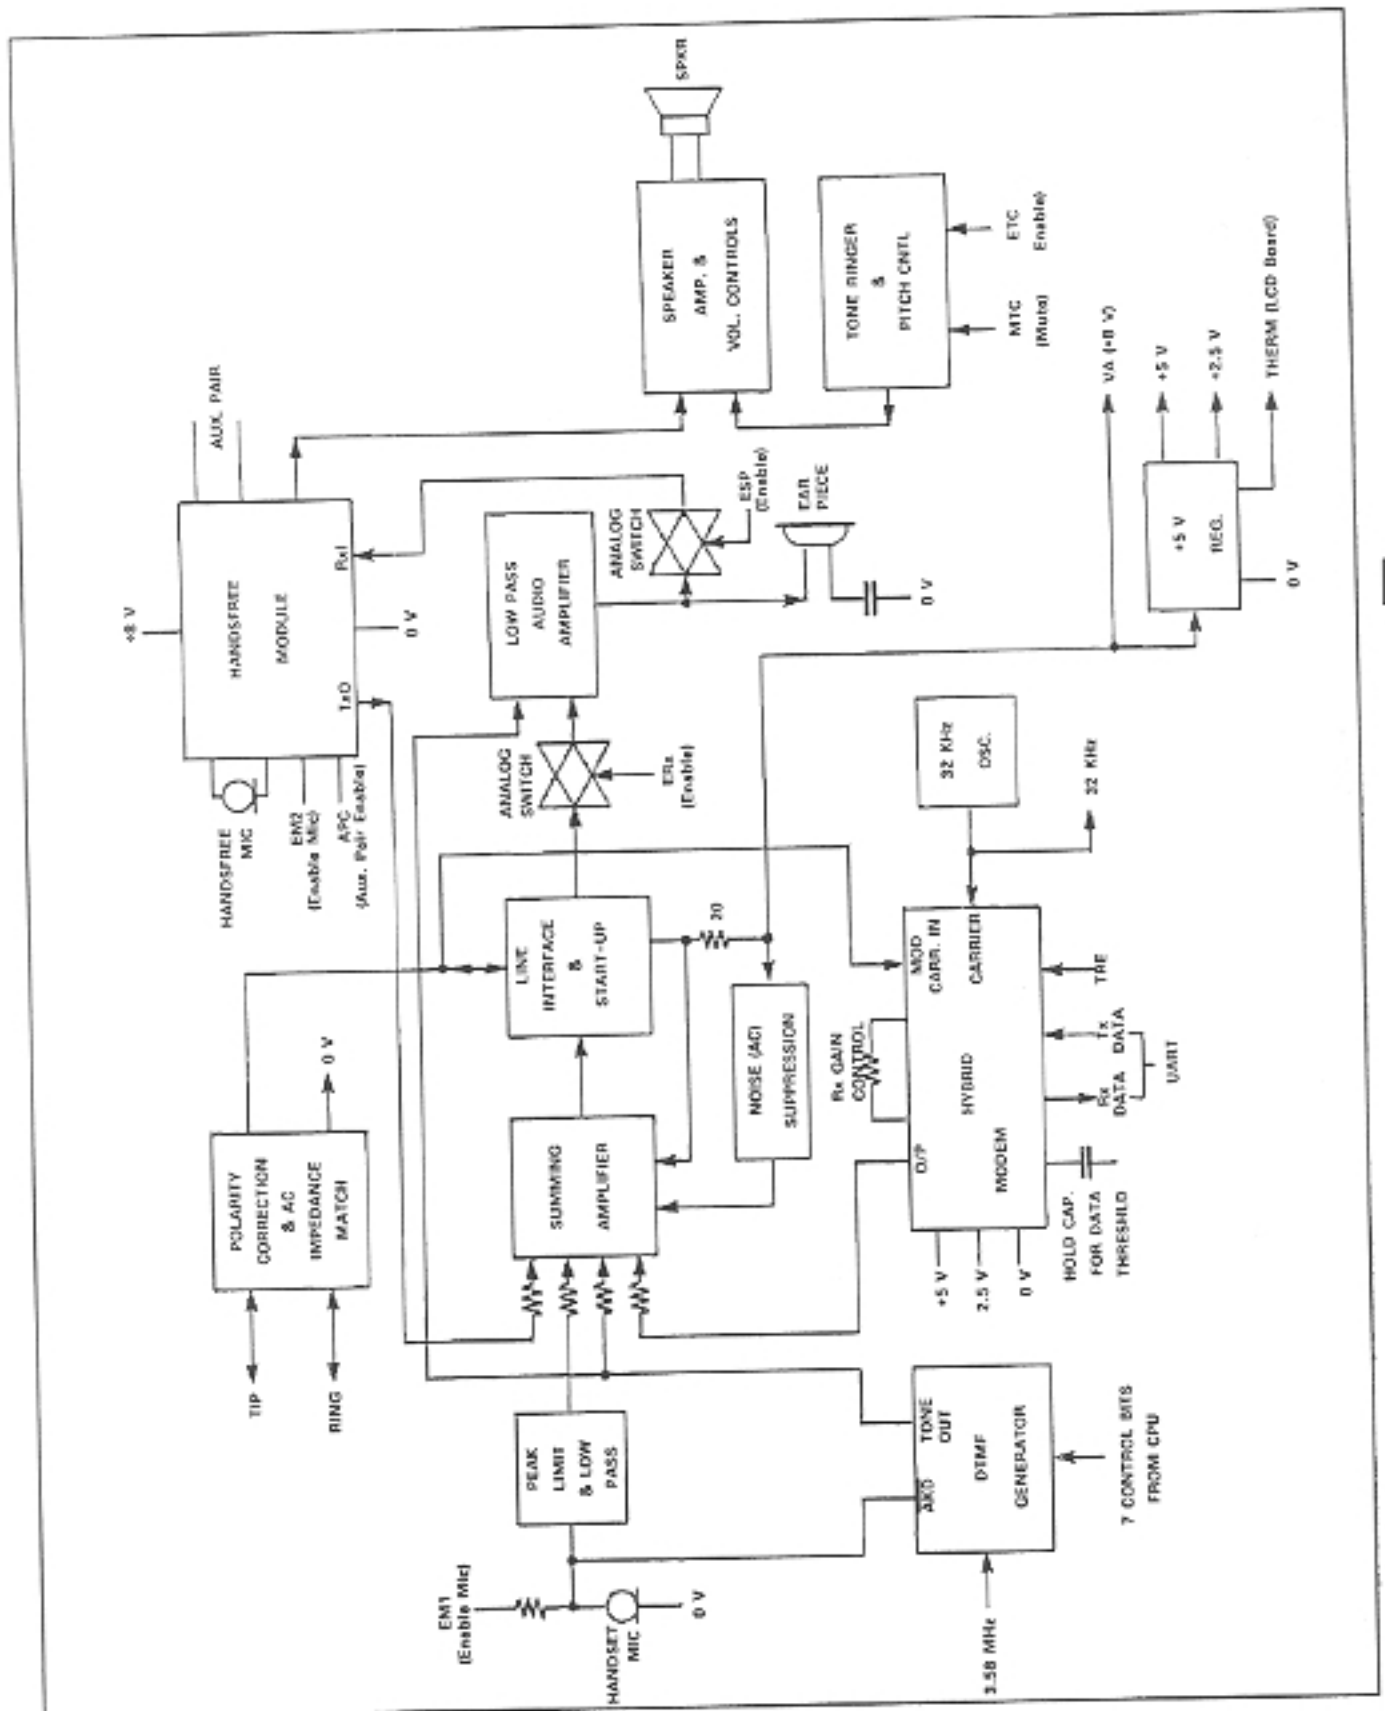
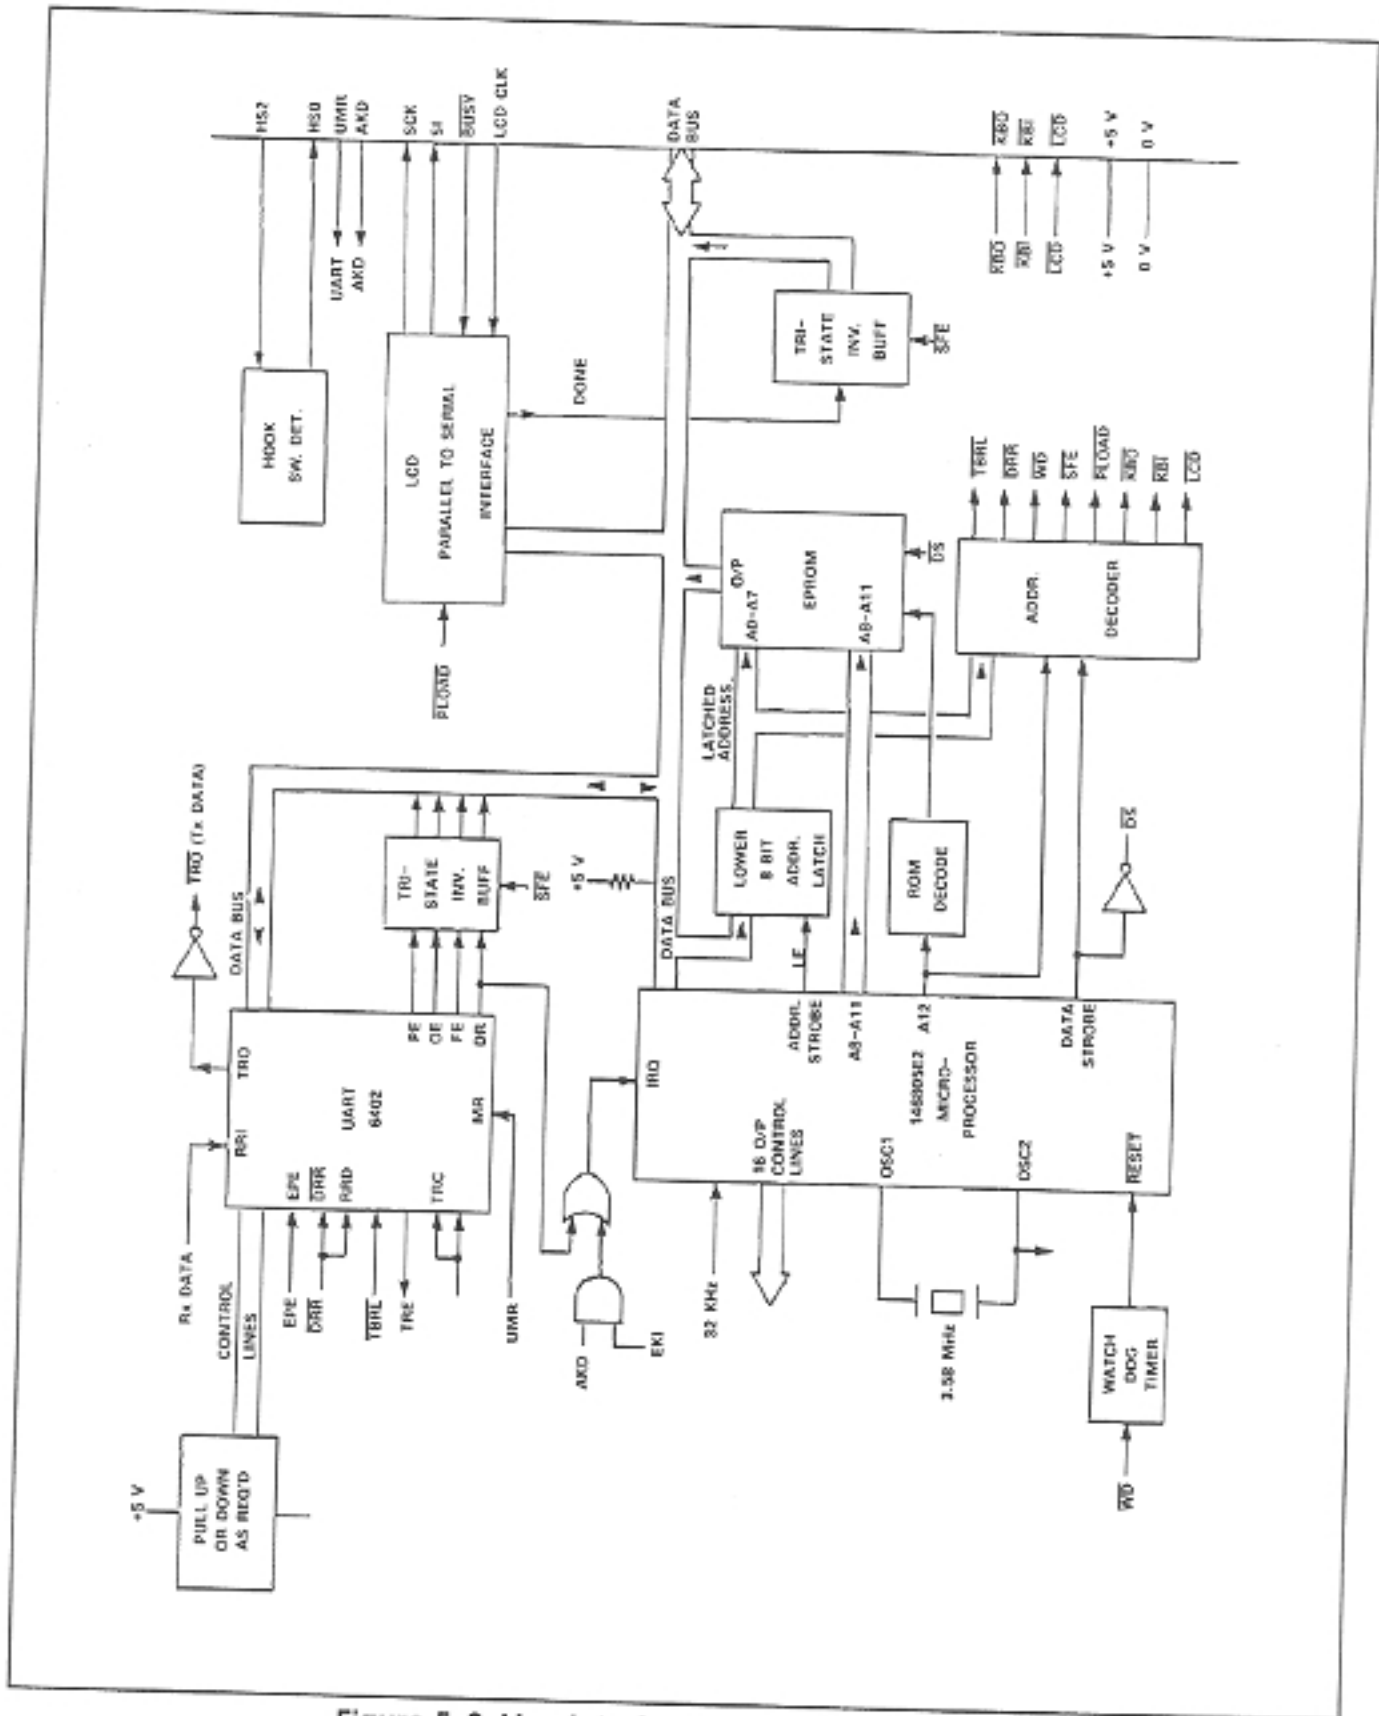
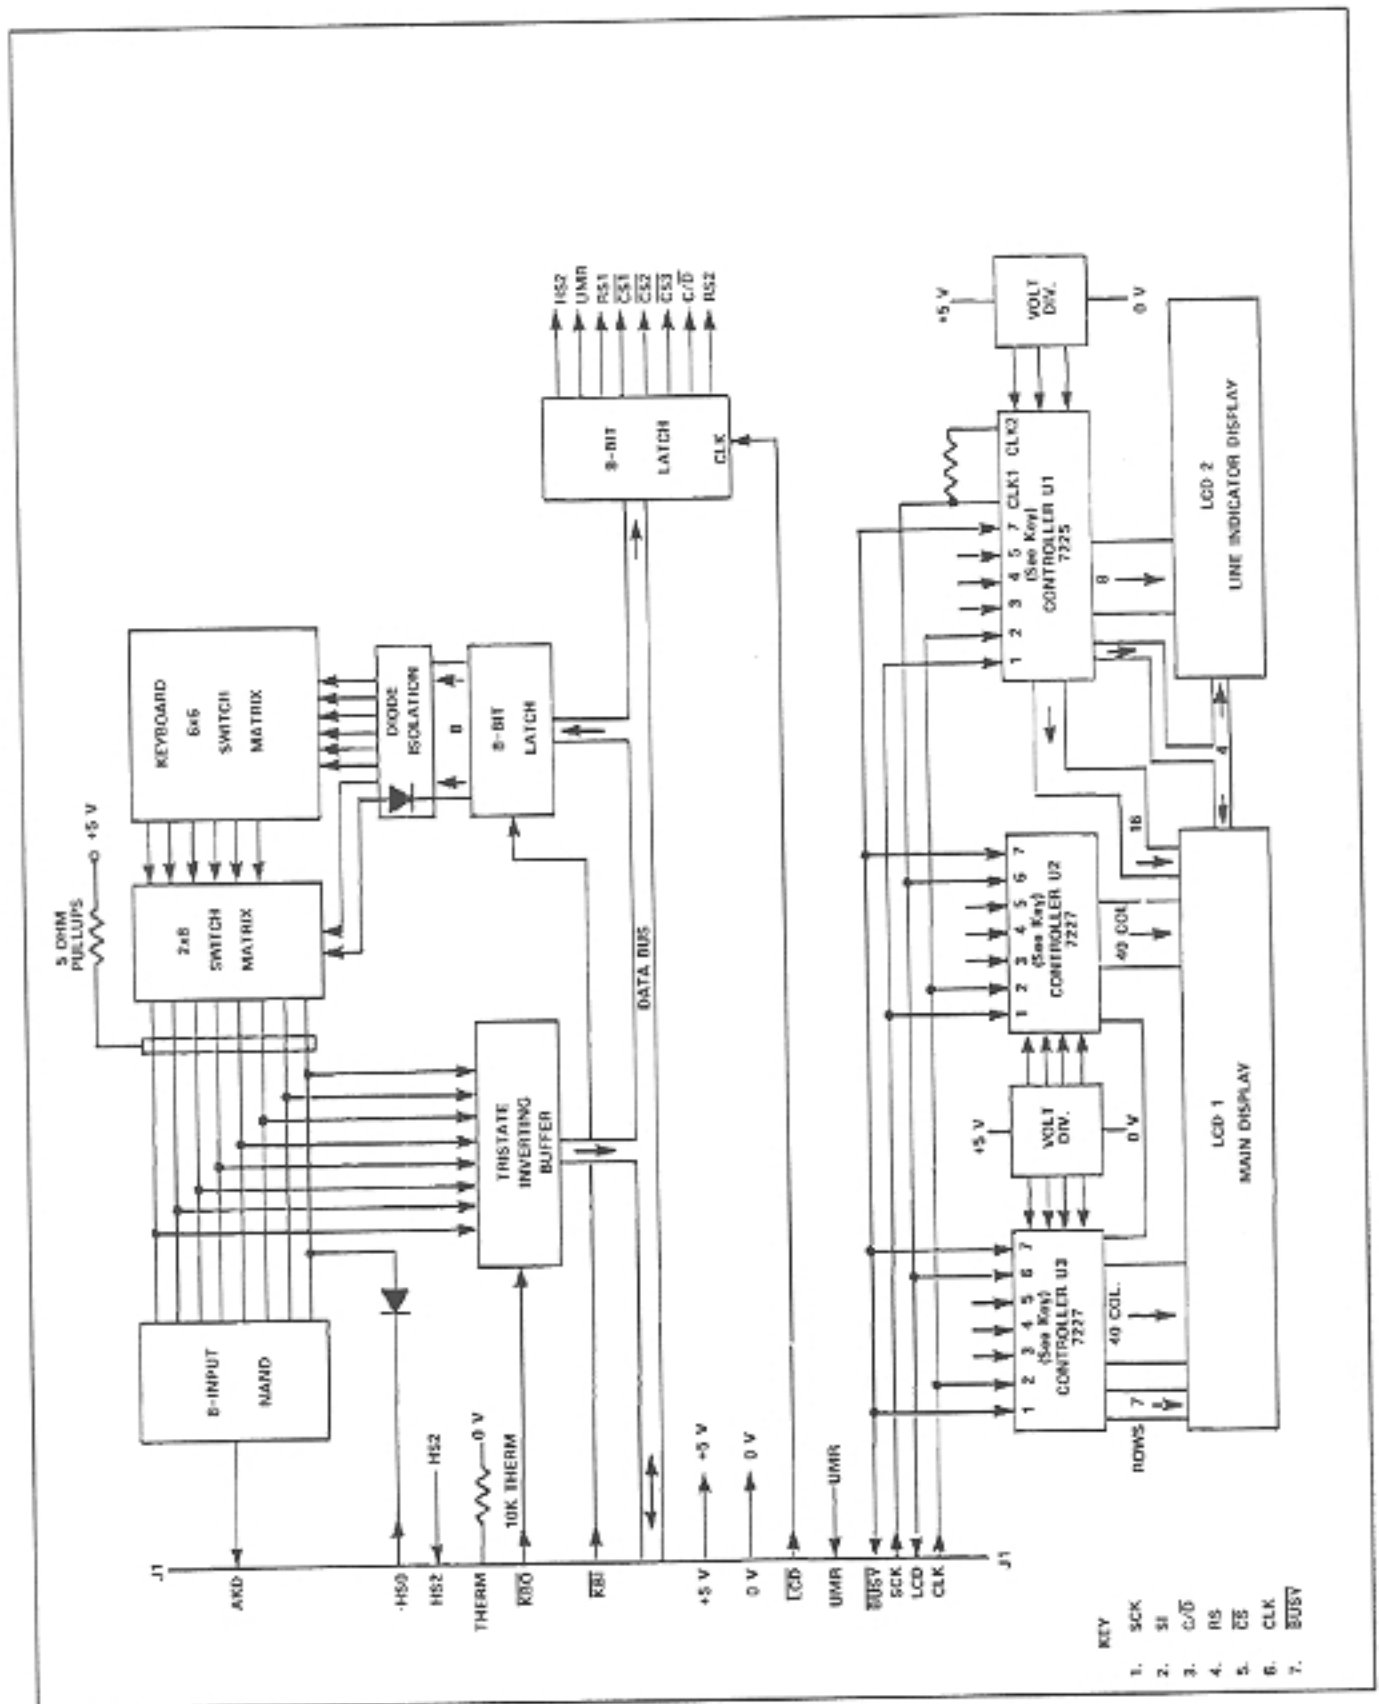

Figure 5-1. Line Interface Board, Analog Section
Figure 5-2. Line Interface Board, Digital Section
Figure 5-3. LCD Board and Keyboard Block Diagram
5.01 The following descriptions relate to the block diagrams, Figure 5-1, Line Interface Board, Analog section; Figure 5-2, Line Interface Board, Digital section; and Figure 5-3, LCD Board and Keyboard.
##### LINE INTERFACE BOARD, ANALOG SECTION (Figure 5-1)
## LINE INTERFACE BOARD, DIGITAL SECTION (Figure 5-2)
## LCD BOARD AND KEYBOARD (Figure 5-3)